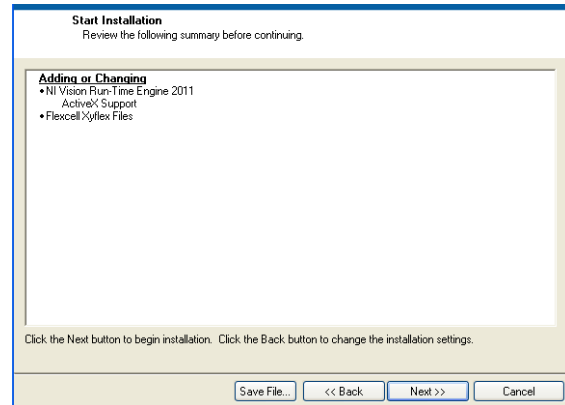

Figure 4. Starting XYFLEX™ installation
- 6) Click *NEXT* to begin the installation (**Figure 4**).